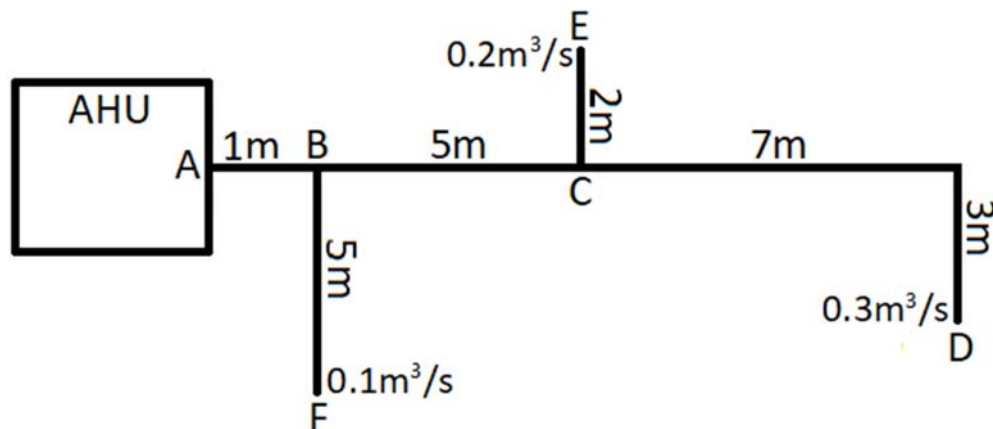

Figure 4[b]
- [b] **Air is supplied from the air handling unit (AHU) at 20°C and 50% relative humidity. The recommended velocity at the main duct (A-B) is 9 m/s. The air duct length and air flow rates are shown in Figure 4(b). Use the Equal-Friction Method to calculate:**